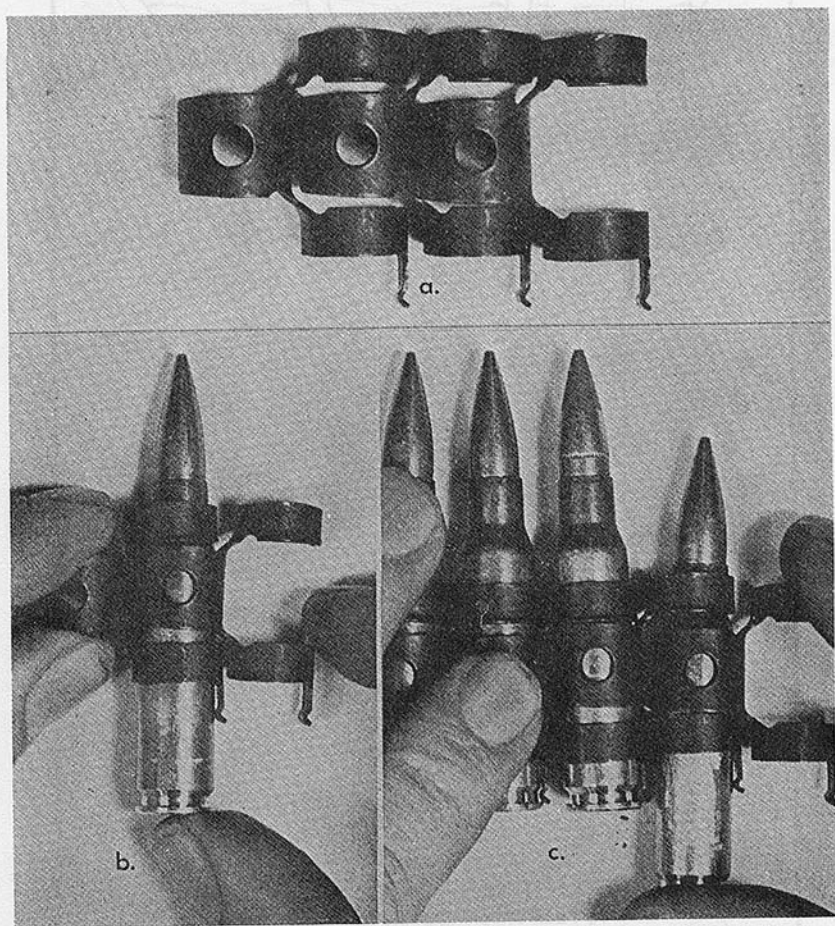

Fig. 8.—Making up a belt
(1) **To make up a belt.** Take two links, both the same way up, and place them so that the projection of one fits into the gaps of the other (*see Fig. 8. a.*). Then (*in the manner shown in Fig. 8. b.*), interlock them by inserting the nose of a round through both links and press the round forward till the projecting detent of the clip clicks into place, in the groove at the base of the round. Connect further links and rounds in the same way (*see Fig. 8. c.*).